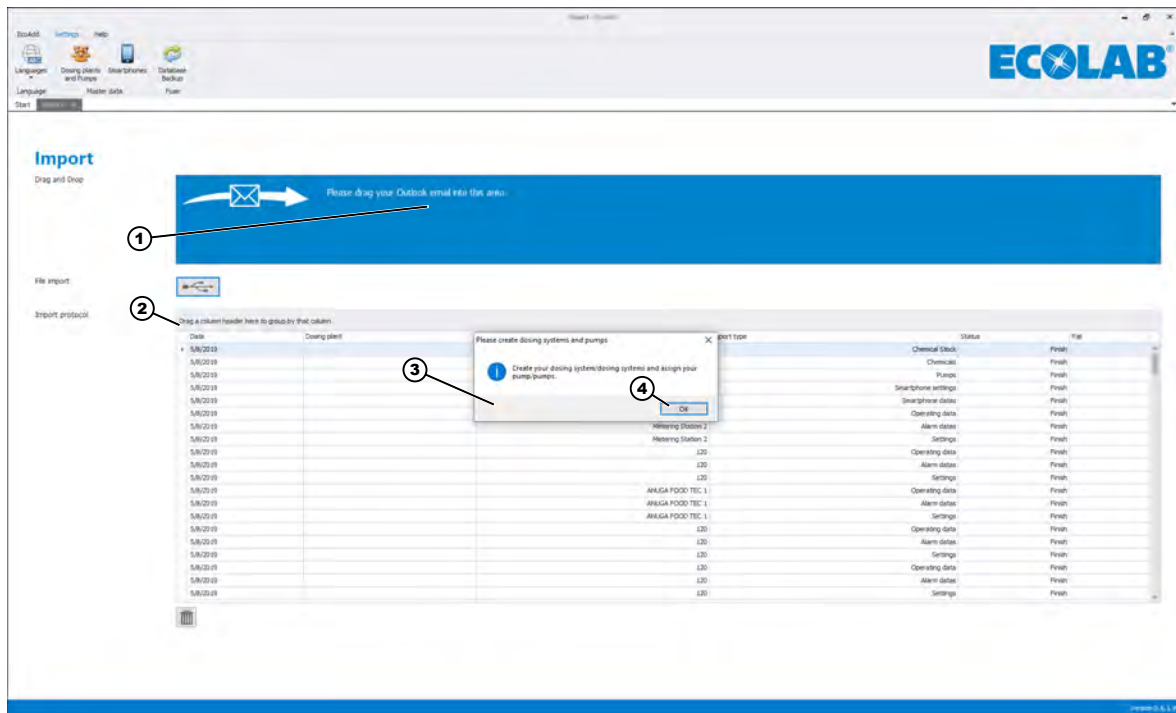

Fig. 4: Creation of 'Dosing plants and pumps'
1. Follow the prompt in the field (Fig. 4, item 1) and drag your email into this area.
- ⇒ The data is imported into the 'EcoAdd PC' program. This fills the tabular display of the imported data, which is referred to as the import log (Fig. 4, item 2). The program also prompts you to "Create' Dosing plants and pumps" (Fig. 4, item 3).
2. Choose [OK] (Fig. 4, item 4) to confirm the notification window.